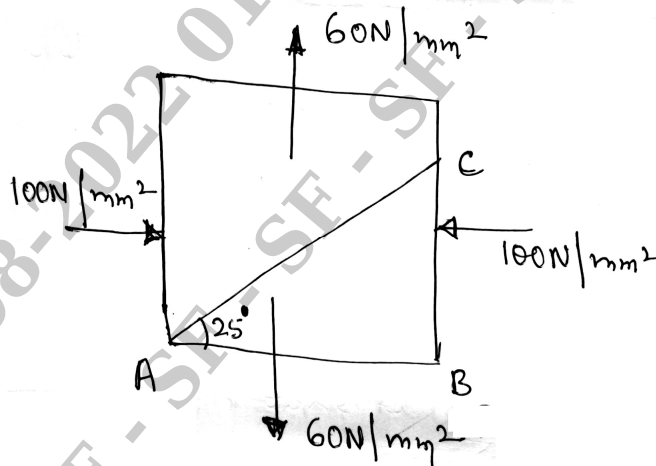

Fig Q3(c)
- c. The direct stresses at a point in a strained material are 100N/mm^2 compressive and 60N/mm^2 tensile as shown in Fig Q3(c). Find the stresses on the plane AC. (04 Marks)